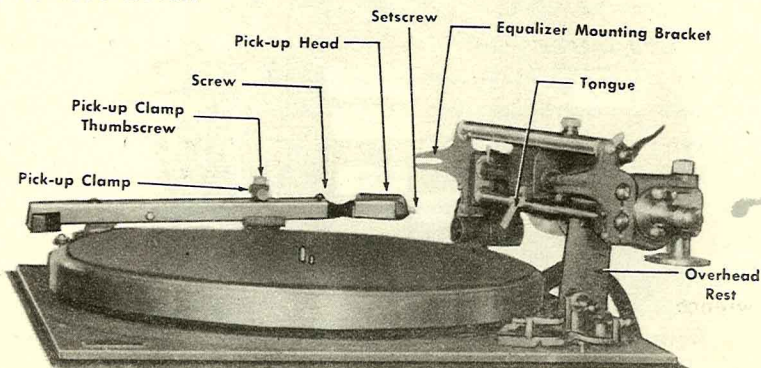

Figure 3. Overhead mechanism mounted on overhead rest.
(2) Lower the overhead-cutter mechanism into the hole in the panel casting until the shoulder rests against the top bearing surface of the hole.
(3) Grasp the overhead handle and swing the mechanism to and on top of, the overhead rest (fig. 3).
(1) Loosen the four equalizer mounting screws (two on each end) and push the slider unit between the slots on the equalizer mounting brackets (fig. 3).
(1) Check the tongue (fig. 3) at the rear of the overhead mechanism to ascertain that it is engaged to the U-bracket of the slider unit.
(2) Set the volume control of the amplifier for proper level with the equalizer slider in the off or extreme outside position. (The cutter carriage at the extreme right.)
(3) The selection of the frequency to be equalized (SLOPE CONTROL setting) will depend upon the type sound to be recorded and upon intelligent judgment of the operator.
The overhead assembly is constructed as a complete unit. One end is mounted on the turntable chassis by means of a swiveling elbow joint (30) which is held fast with the overhead mounting bolt (32). The other end, carrying the driving mechanism, is driven by a flange which fits over the turntable shaft and drive pin. The driving mechanism, which turns the feed screw, consists of a worm gear (21) and ratchet assembly (24). The feed screw can be removed by unscrewing the lock screw (34) and pulling outward on the crank handle. The cutter carriage (18), which slides laterally on the overhead bars (27), is engaged with the feed screw by the feed-finger knob (26). Turning this knob lowers a metal blade into engagement with the threads of the feed screw. By turning the crank handle the cutter carriage can be moved mechanically in one direction only (inside-out or outside-in) depending upon the type feed screw in use. The crank handle turns in one direction only (clockwise as viewed from the right-hand side of the machine) because of a ratchet device in the ratchet assembly (24). The overhead assembly may be swung clear of the turntable and placed on the rest as shown in figure 3.